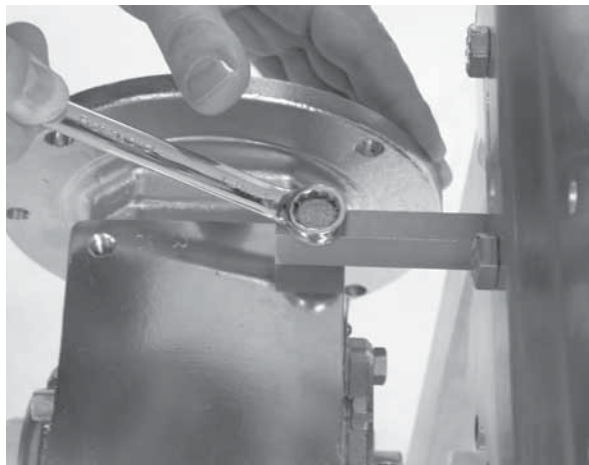

Figure 70
4. Unbolt the drive assembly and slide it off the bearing spindle (**Figure 70**).